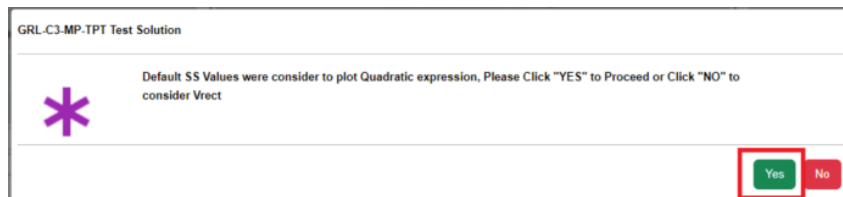

FIGURE 2.13: FIND OPTIMUM COIL POSITION - #5
5. A pop-up message will appear (as shown in Figure 2.13 below) to prompt the user to select the method for optimum coil positioning (using default SS values or Vrect). Click **Yes** to continue with the next step by using the default SS values.